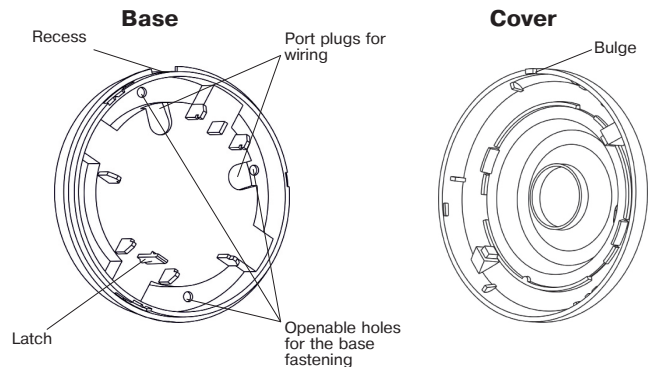

Figure 2 – Base and cover of the Detector
- Put off the Detector cover by its turning counter-clockwise full on to the recess on the external ring of the Detector base and then rise the cover (see Figure 2).